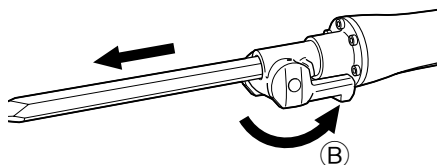

Fig. 6
- (3) Clamp the accessory into place by bringing the retainer to clamp position (B). To make sure that the accessory is properly mounted, pull on the accessory (Fig. 6).